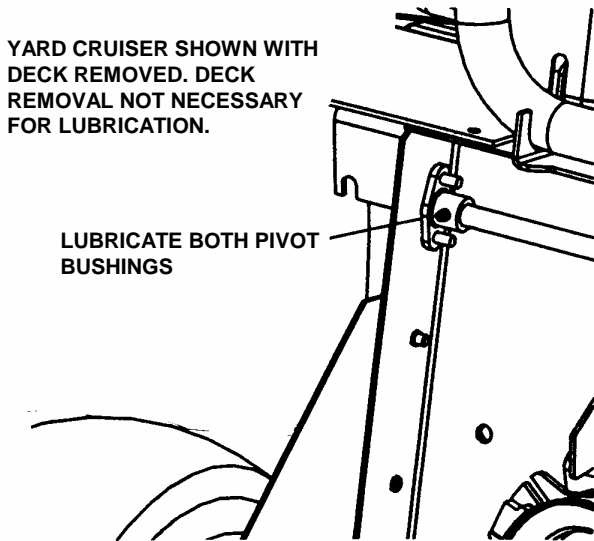

FIGURE 3.7
- Lubricate both pivot bushings with three shots general purpose grease from grease gun. See Figure 3.7